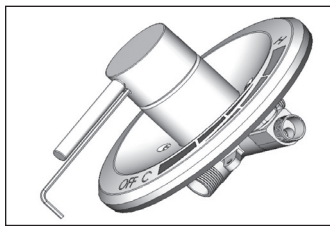

Figure 5
6. Maintain the handle cap hole facing down, aligned with the "C" on the escutcheon plate. Then insert allen wrench into handle cap hole and slowly tighten set screw until you have a full and secure engagement of the screw onto the cartridge stem (see **Figure 5**).